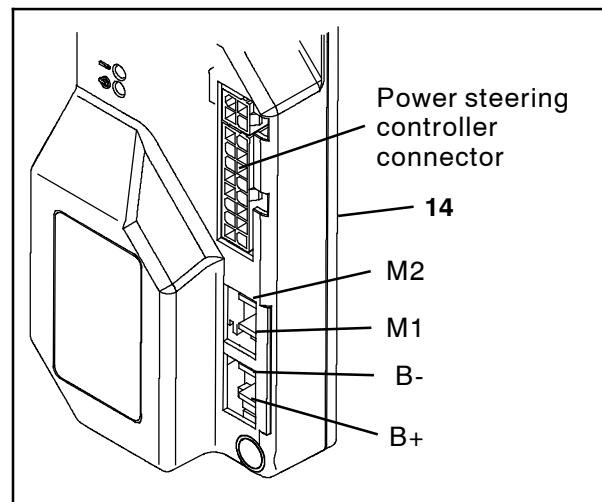
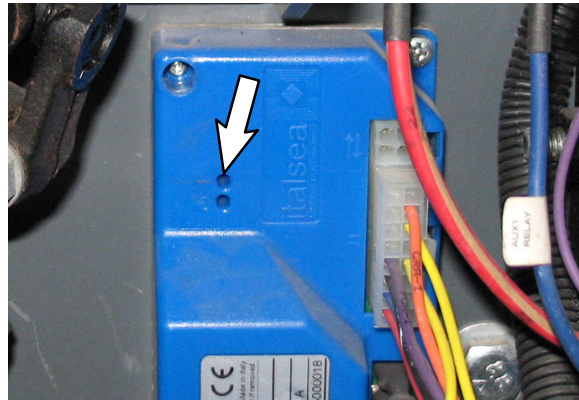

FIG. 23
FIG. 50
23. Connect the power steering harness (19) to the steering controller (14). (Fig. 23/ Fig. 50)
59. **Calibration:** Quickly squeeze/activate the switch (16) lever four times within 3 seconds. The power steering controller (14) LED will illuminate each time the snap switch lever is squeezed. The LED will remain illuminated for 2 seconds the fourth time the snap switch lever is squeezed to show the sequence is completed. (Fig. 50)